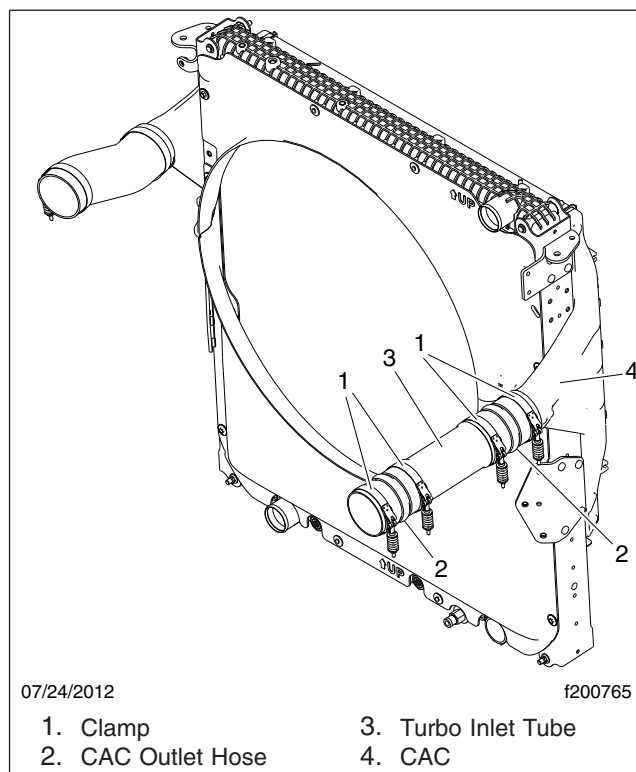
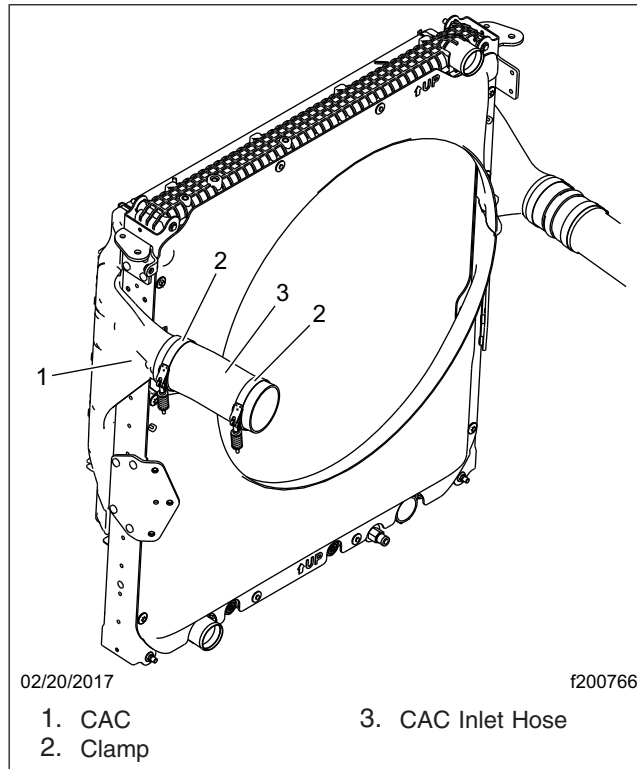

Fig. 1, CAC Hose, Right Side
Fig. 2, CAC Hose, Left Side
7. Remove the right side CAC hose. See Fig. 1.
8. Remove the left side CAC hose. See Fig. 2.
14. Install the CAC hoses. See **Fig. 1** and **Fig. 2**.